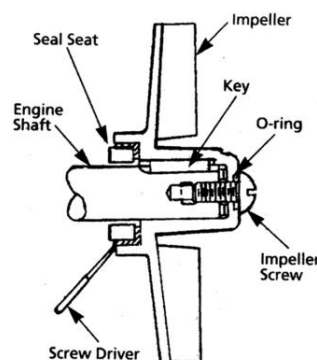

Figure 1 – Mechanical Seal Replacement
Refer to Figures 1, 2, and 3.
3. Pry seal seat from impeller recess with a screwdriver (See Figure 1).